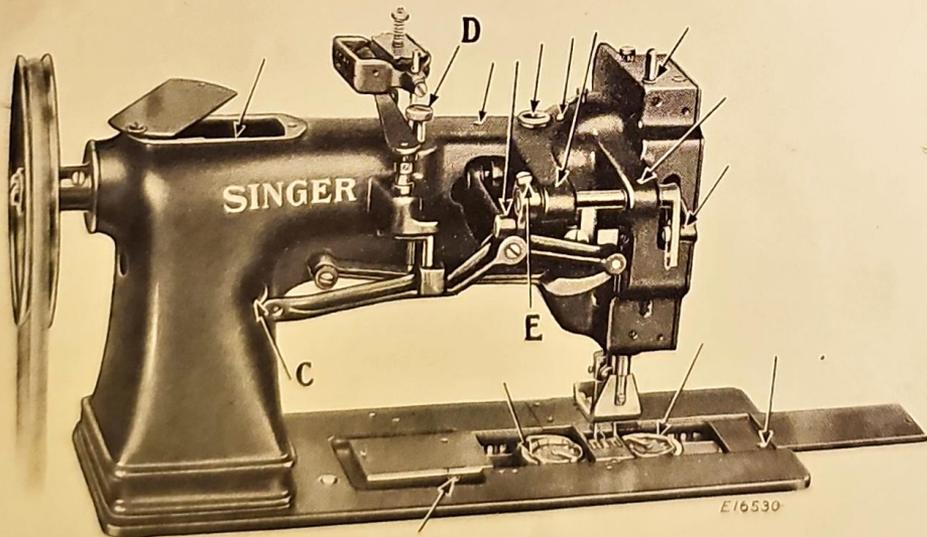
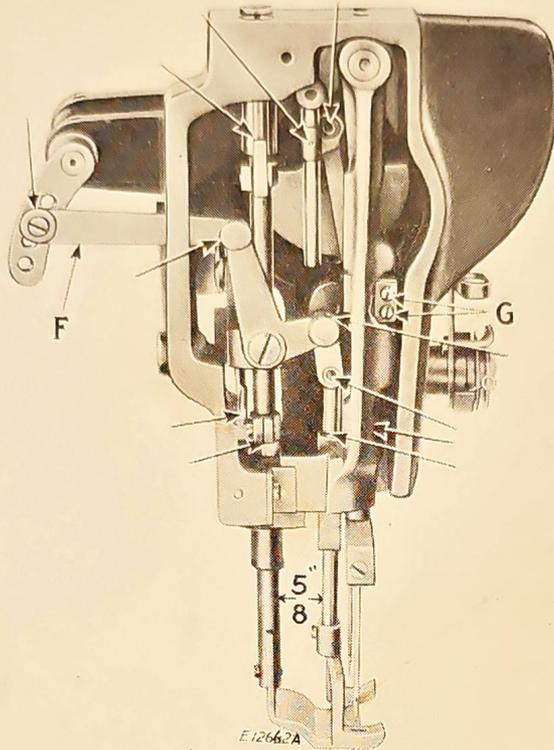
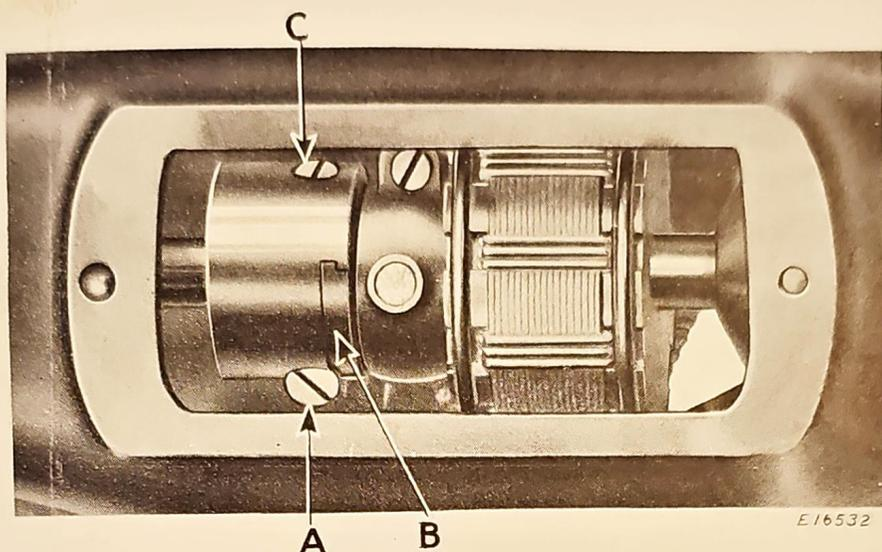

Fig. 3. Rear View of Machine
Fig. 4. End View of Machine Showing Oiling Points Also Adjustments on the Machine
Fig. 17. Feed Eccentric. Arm Cap Removed.
The length of stitch is regulated by the feed eccentric (B, Fig. 17) located on the arm shaft.
To lengthen the stitch, loosen screw (C, Fig. 17) turn the feed regulating screw (A, Fig. 17) over toward the left. To shorten the stitch, turn this screw (A, Fig. 17) toward the right. When the desired length of stitch is obtained, securely tighten screw (C).
To increase the pressure of the presser feet on the material, turn the thumb screw (D, Fig. 3), at the back of the machine, downward. To decrease the pressure, turn this thumb screw upward.
In case the needle bar is not correctly set, loosen the needle bar connecting stud pinch screws (G, Fig. 4) and place the needle bar in correct position as directed above, then retighten the screws (G).
Adjust the feed eccentric (B, Fig. 17) so that there is no feed movement of the needle bar frame, then set the needle bar so that when it rises $\frac{1}{8}$ inch from its lowest position, the points of the sewing hooks will be about $\frac{1}{16}$ inch above the eyes of the needles.
The distance between the vibrating presser bar and lifting presser bar, after adjusting the feed eccentric (B, Fig. 17) so that there is no feed movement of the needle bar, should be $\frac{5}{8}$ inch as shown in Fig. 4.
If the distance between the vibrating presser bar and the lifting presser bar is more or less, insert a screwdriver in the hole at (C, Fig. 3) at the rear of the machine and loosen the clamp screw which holds the needle bar rock frame rock shaft. While this screw is loose, the needle bar frame can be moved forward or backward to the required distance. A piece of metal of the correct width may be used to determine the correct distance. When making this adjustment be sure to see that the feed eccentric (B, Fig. 17) is set so that there is no feeding movement of the needle bar. When the adjustment has been made, securely tighten the clamp screw at C.
The height of lift of the pressers is adjustable by moving the link (F, Fig. 4) to any of the four holes in the rock shaft crank. The maximum lift is secured with the link in the bottom hole. The amount of lift should be regulated according to the thickness of the material being sewn. The feet should lift just high enough to clear the material.
As a rule, the vibrating and lifting pressers should lift an equal height, but some grades of work may require that they lift an unequal height. To change the relative lift of the presser feet, loosen the screw (E, Fig. 3) at the back of the machine and move the vibrating presser bar upward or downward as required, then securely tighten the screw (E).
Adjust the feed eccentric (B, Fig. 17) so that there is no feeding motion.